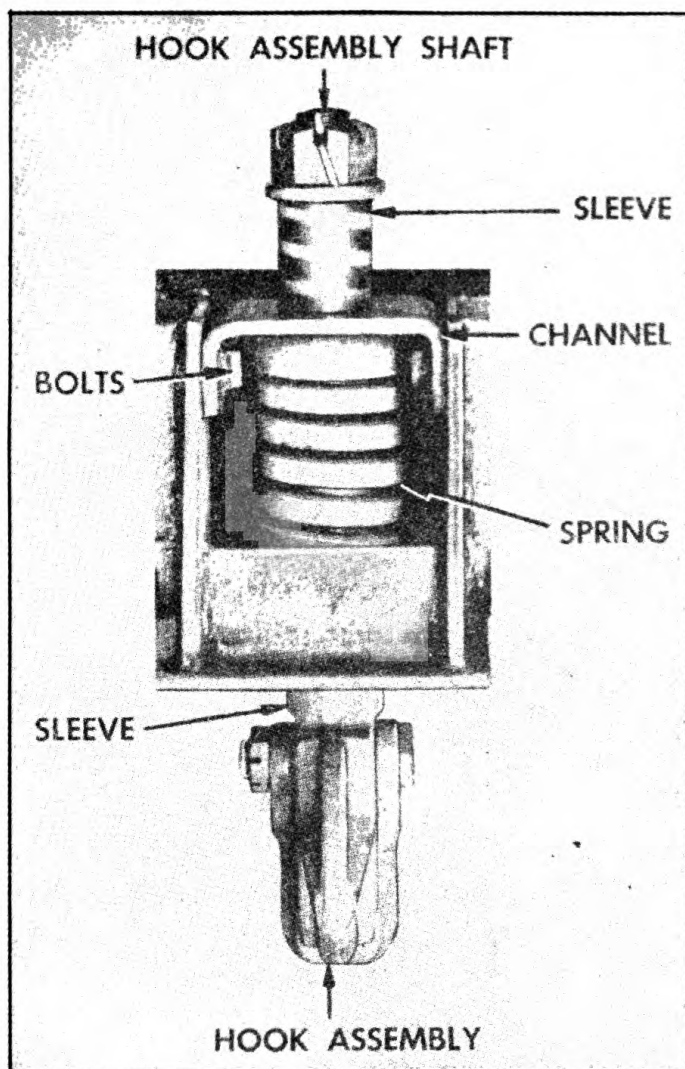

FIGURE 56. PINTLE HOOK
1. **REMOVAL** (Figure 56).—*a.* The pintle hook is bolted to a mounting plate at rear of trailer. By removing the nut and washer from hook shaft, the hook assembly can be pulled out of sleeves and spring which are held within the box section.
4. PINTLE HOOK SPRING AND SLEEVE, REMOVAL (Figure 56).—*a.* Remove four bolts holding channel to box section.